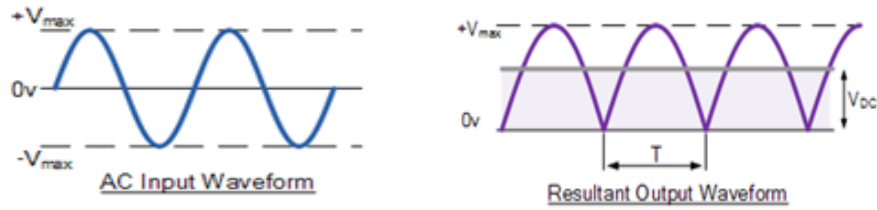

Fig.9: Full Wave Rectifier with 2 diodes
In a **Center tapped transformer Full Wave Rectifier** circuit two diodes are used, one for each half of the cycle. A multiple winding transformer is used whose secondary winding is split equally into two halves with a common centre tapped connection, (C). This configuration results in each diode conducting in turn when its anode terminal is positive with respect to the transformer centre point C producing an output during both half-cycles, twice that for the half wave rectifier so it is 100% efficient as shown in Fig.9.